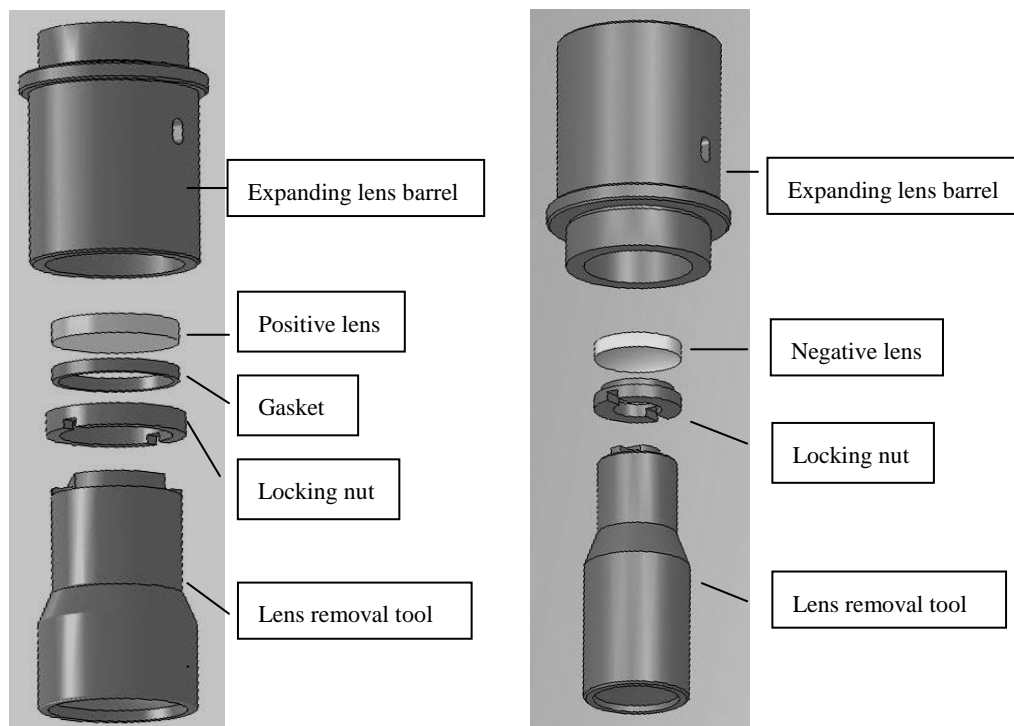

Fig.19-1
2. Installation of negative lens: place the beam expansion removing tool at the platform, and then place the following items at the removing tool in order: locking nut—lens, and then screw back the beam expanding lens barrel, which is as shown in Fig.19-1.